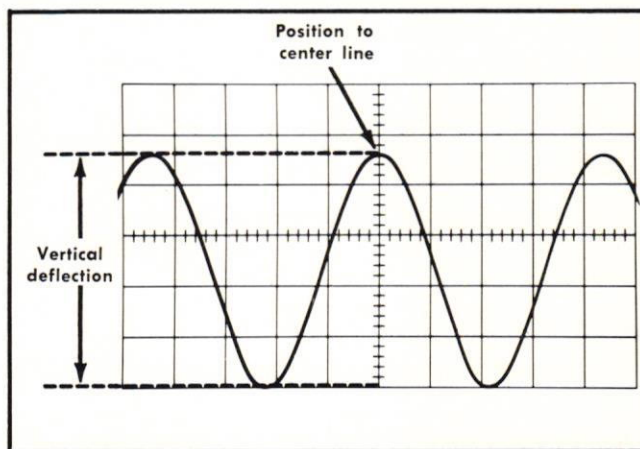

Fig. 2-13. Measuring peak-to-peak voltage of a waveform.
5. Turn the VERTICAL POSITION control so the lower portion of the waveform coincides with one of the graticule lines below the center horizontal line, and the top of the waveform is on the viewing area. Move the display with the HORIZONTAL POSITION control, so one of the upper peaks lies near the center vertical line (see Fig. 2-13).
EXAMPLE: Assume a peak-to-peak vertical deflection of 4.6 divisions (see Fig. 2-13) using a 10X attenuator probe and a VOLTS/DIV switch setting of .5.